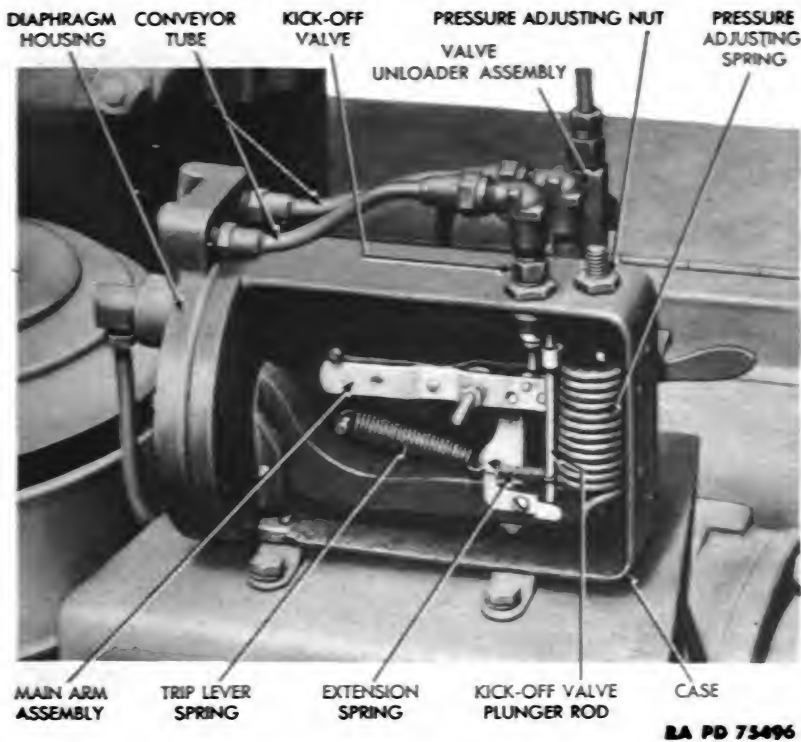

Figure 29 – Compressor Unloader Pilot Valve – Cover Removed
(9) DISASSEMBLY OF UNLOADER PILOT VALVE (fig. 29).
(10) ASSEMBLY OF UNLOADER PILOT VALVE (fig. 29).